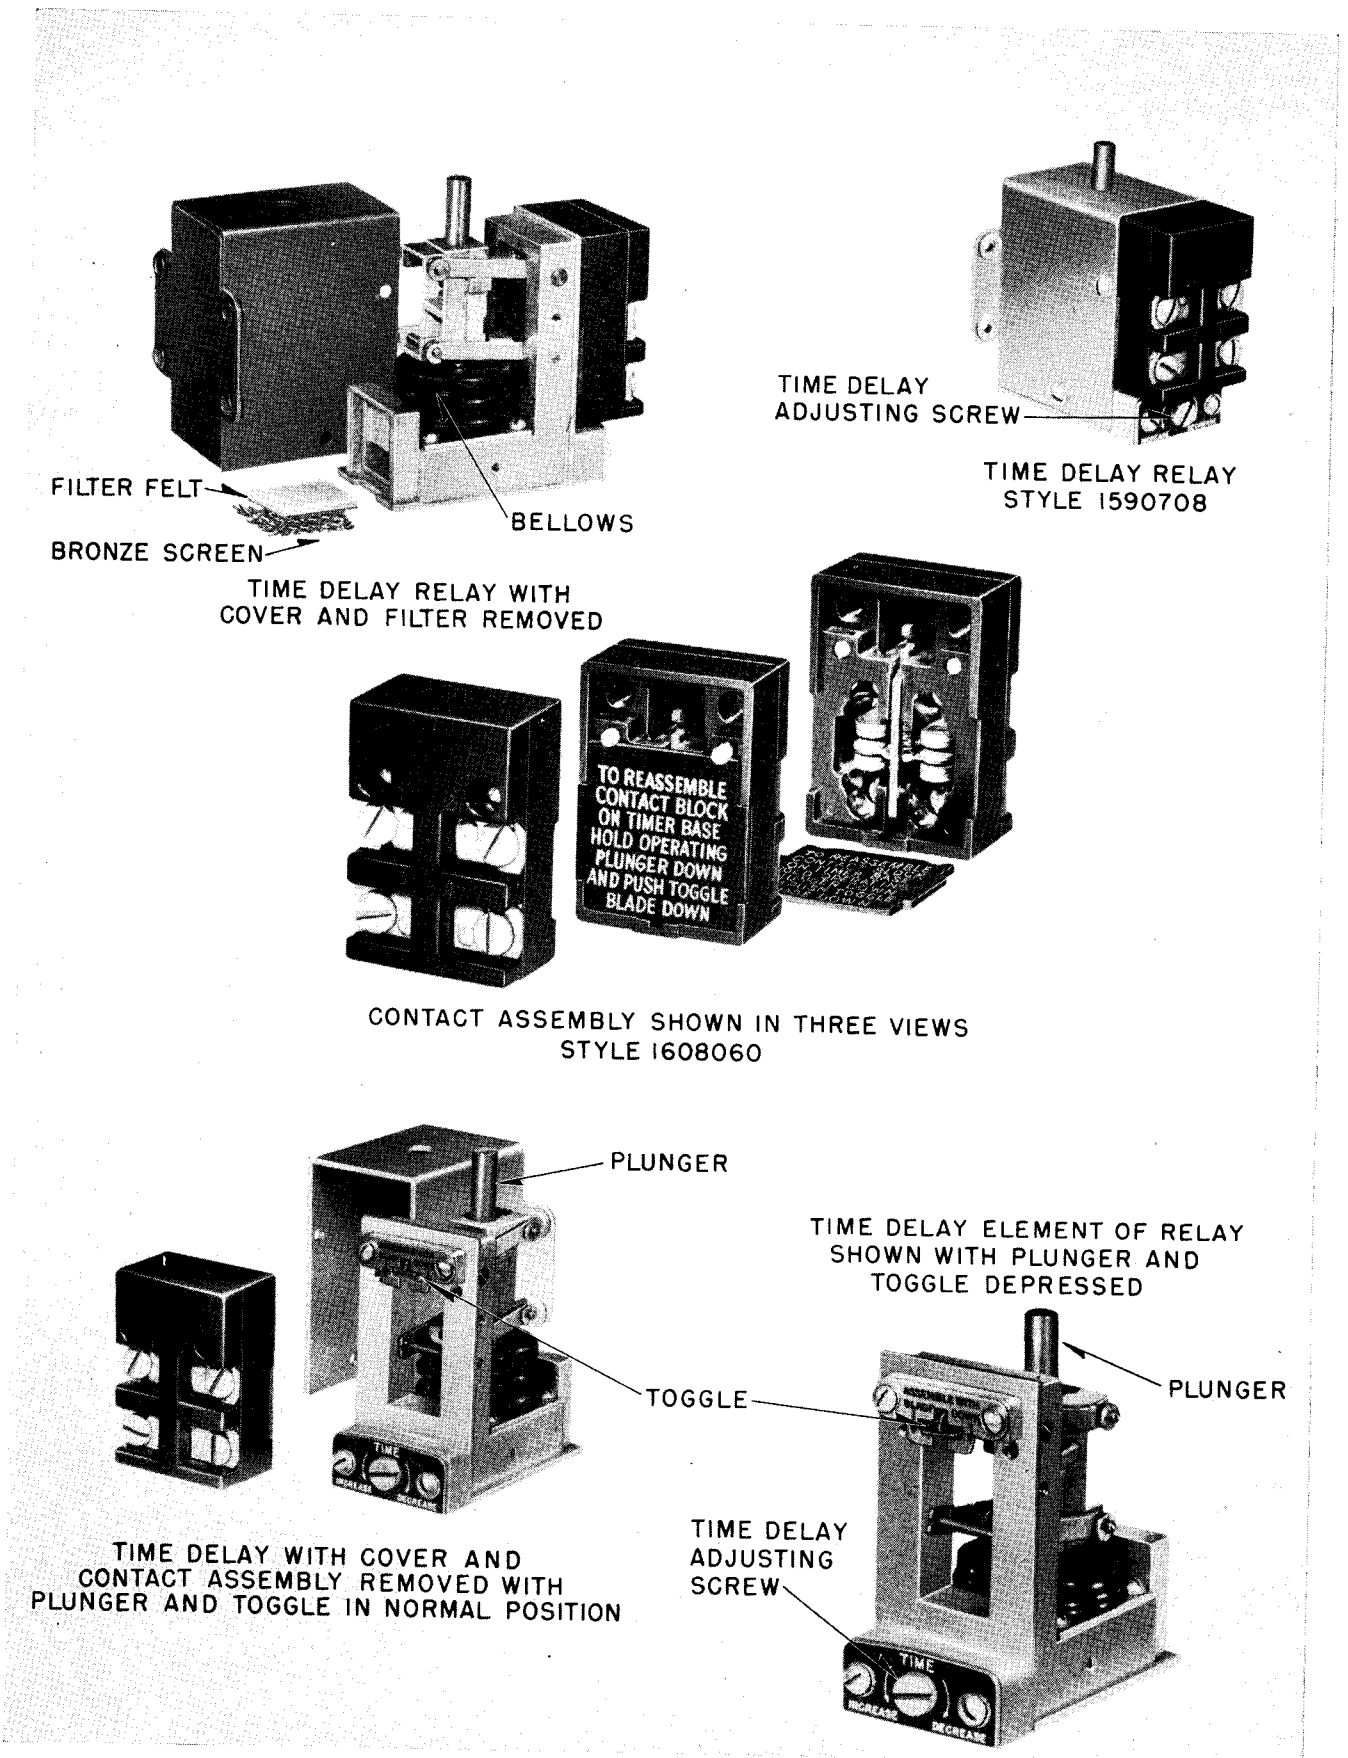

FIG. 4. Various Views of "DynAC Brake" Time Delay Relay and Contact Assembly
The basic mechanism of both types is the "DynAC" time delay relay (Fig. 4). This is a pneumatically controlled device which gives an application of power for braking of exactly the right duration. It has a built-in overtravel feature on the bellows operating plunger to ensure proper operation at all times, without necessity of exacting travel adjustments.
The only major adjustment necessary is on the length of the time delay. The time from the removal of pressure from the plunger until the opening of the contacts of the "DynAC" time delay relay (snapping of the switch) should be approximately one half to one second. Turning the adjusting screw clockwise decreases the time delay, counter-clockwise increases the time delay. An approximate adjustment is made by turning the adjusting screw to the maximum delay setting and then reducing the delay by four full turns of the adjusting screw. See Fig. 4.
The contacts of the time delay relay should be checked for cleanliness and future life at regular maintenance periods. It is recommended that this be done each time the selector contacts of the tap changer are inspected. This inspection may be accomplished by removal of the two mounting screws which fasten the contact assembly to the time delay mechanism. The plunger and toggle must be depressed when the contact assembly is being replaced (Fig. 4).
In extremely dusty locations the time delay mechanism should be removed from its case by the removal of the four screws, two on each side of the case, and the case thoroughly cleaned. The bronze screen should be removed from the recess and the filter felt cleaned with carbon tetrachloride prior to assembly (Fig. 4).
- Time Delay Unit . . . . . S# 1590 708 (Fig. 4)
- Contact Assembly . . . . . S# 1608 060 (Fig. 4)